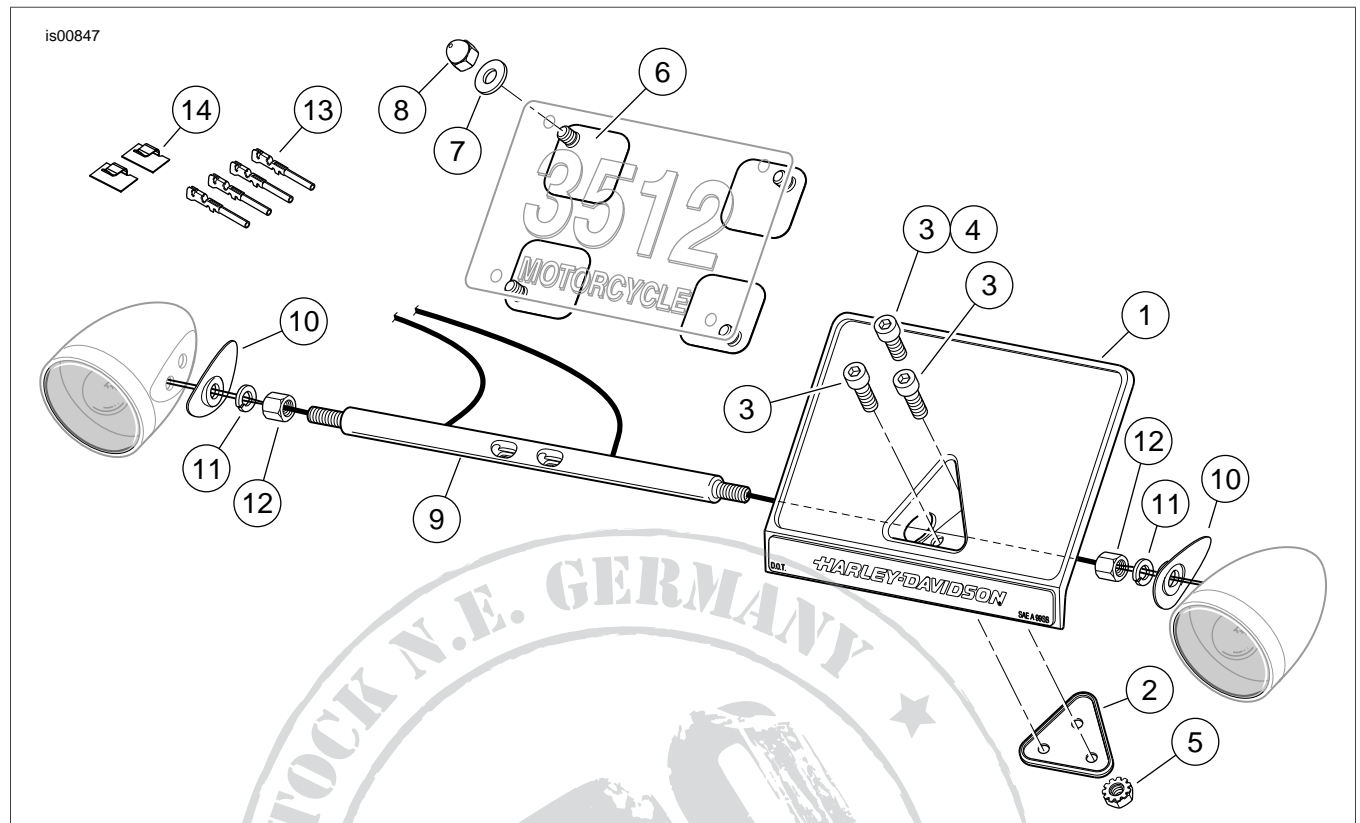

Figure 7. Service Parts, Layback License Plate Mounting With Turn Signal Bar
See Figure 7 and Table 1.
13. See Figure 7. Obtain the **new** turn signal bar (9), a hex jam nut (12), split lock washer (11) and turn signal recess cover (10) from the kit.
19. See Figure 7. Obtain the **new** layback license plate mount (1) from the kit. Insert the turn signal bar into the hole in the right side of the layback license plate mount, and slide it through to exit the hole in the left side.
20. Obtain the second disassembled turn signal, and the remaining hex jam nut (12), split lock washer (11) and turn signal recess cover (10) from the kit.
23. Obtain the triangle gasket (2) and a hex nut with lock washer (5) from the kit.
38. See Figure 7. Obtain a clip (15) from the kit (two are provided). Clean an area on the underside of the fender, along the path of the turn-signal wires.